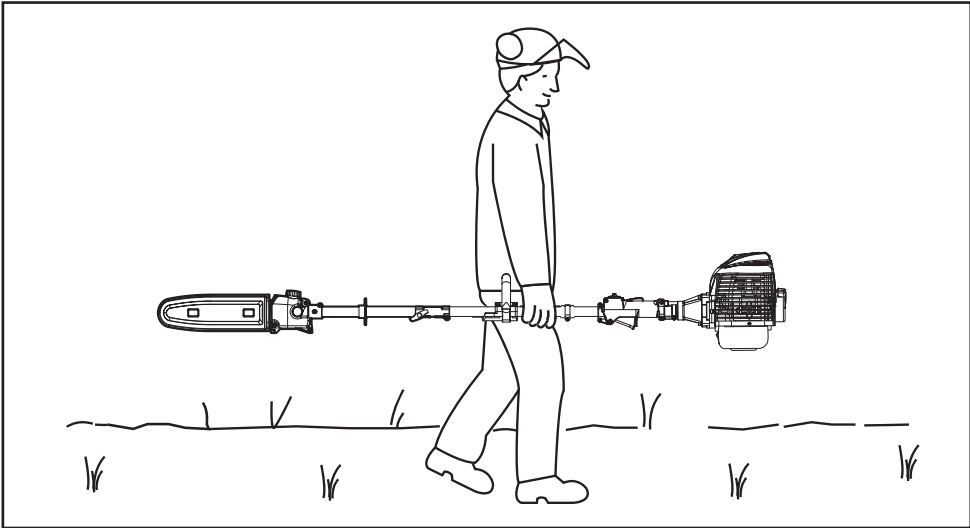

Fig. 24
- Always carry the machine by its main shaft tube (A11) (Fig. 24).